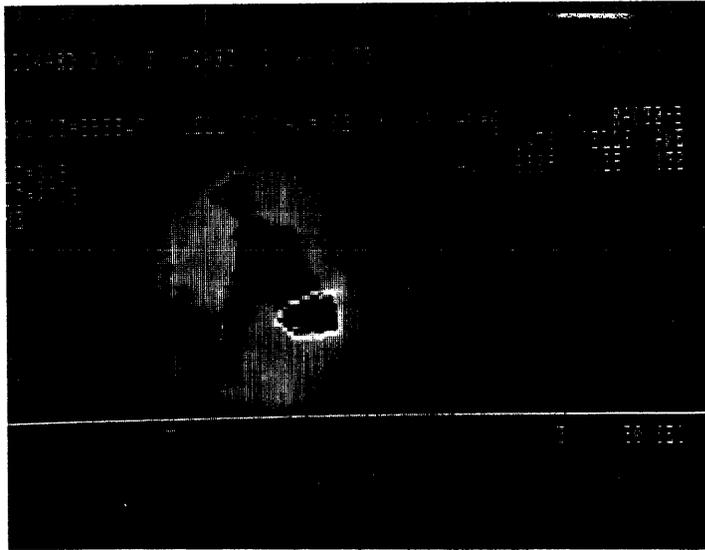

FIGURE 1. ROI defined over end-diastole left ventricle
- 4) Enter irregular region of interest (IR), outline the left ventricle and save the matrix (SM_n). (Figure 1)